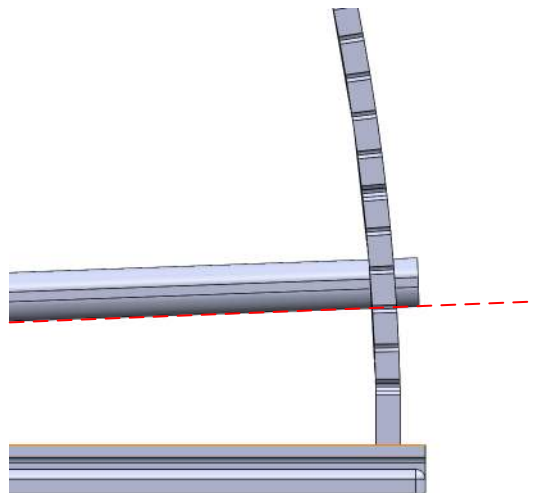

Figure 3-16. Protractor Angle Alignment
- b. The bottom edge of the arm aligns with the protractor to mark for angle measurements as shown in Figure 3-16.